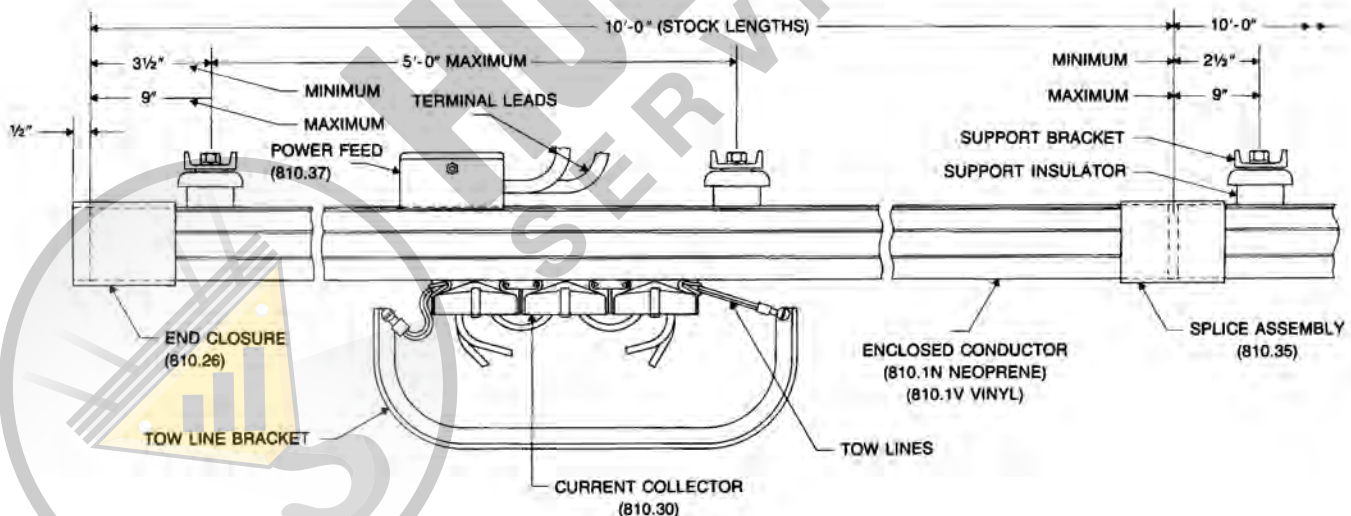

FIGURE 71
4. Start installing conductor bar sections at one end of the conductor bar system. Attach conductor bar section with support insulator assemblies to support brackets as shown in Figure 71. Dimension from end of conductor bar section to first support bracket shall be minimum 3-1/2" to maximum 9".
5. Install adjacent conductor bar sections following the instructions for installing splice assemblies. Refer to Figure 71 and notice that dimension from end of conductor bar section at splice to first support bracket of each bar shall be minimum 2-1/2" to maximum 9".
Insert current collectors into conductor bars by removing an end enclosure at end of electrification run or at transfer points. They may also be inserted in the system by springing apart lower lips of conductor bars midway between spacer insulators. Current collector mounting brackets are designed to tow collectors from either end as shown in Figure 71.